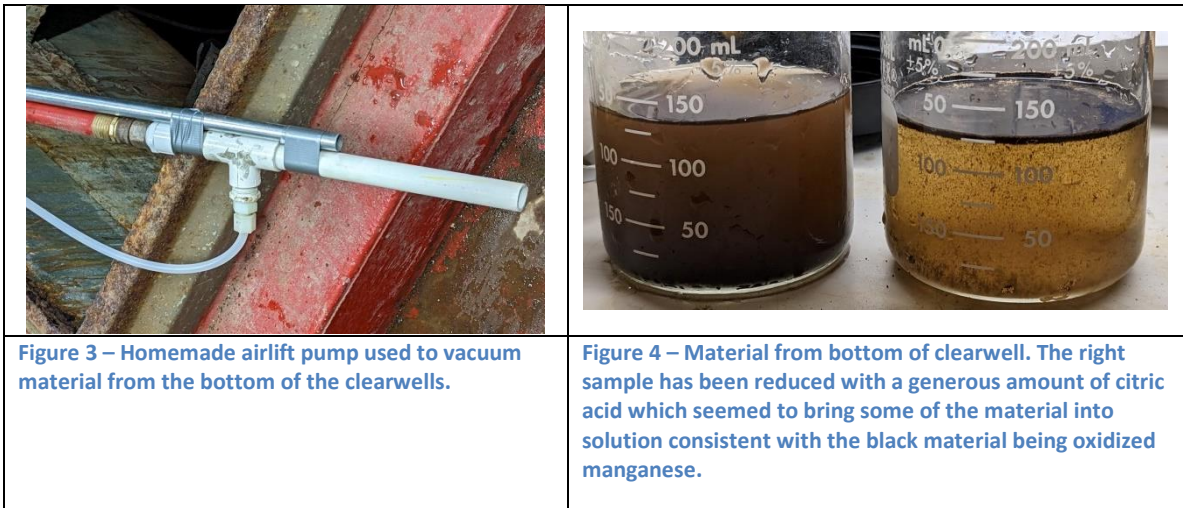

Figure 3 – Homemade airlift pump used to vacuum material from the bottom of the clearwells.
- Material was vacuumed off the bottom of the clearwells using a homemade airlift pump shown in Figure 3. We pumped a mix of water and solids from the bottom of the clearwells into a clean bucket. We could feel the layer of material at the bottom of the clearwell and very approximately estimate thicknesses. The south clearwell had maybe ½” of material at the bottom that had accumulated since cleaning in 2022. The north clearwell had maybe 3” of material that had accumulated since the 2017 cleaning.